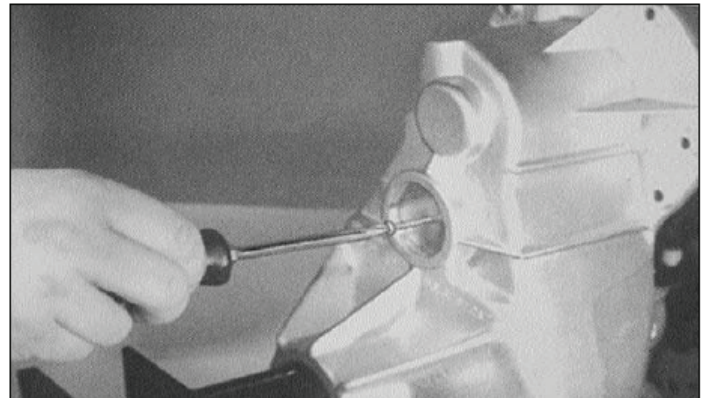

Figure 7-16. Removing Cup Plugs
12. Punch or drill a 1/8" diameter hole near the center of each intermediate cup plug (17). Insert a suitably sized sheet metal screw until the metal bore plug is forced out of the bearing bore. See Figure 7-16.